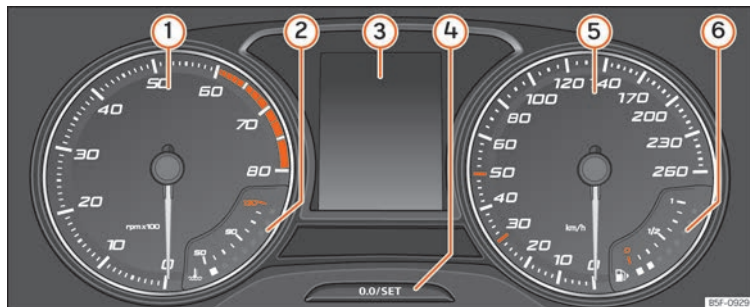

Fig. 123 Instrument panel, on dash panel.
Details of the instruments » **Fig. 123:**
- Briefly press the button **0.0/SET** » Fig. 123 ④ to reset the trip recorder to 0.
- Keep the button **0.0/SET** ④ pressed for about 3 seconds and the previous value will be displayed.